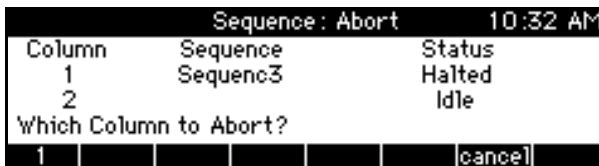

Figure 3-15 Aborting a Synthesis
4. Select **Abort** on the Sequence menu. The screen shown in Figure 3-15 is displayed.